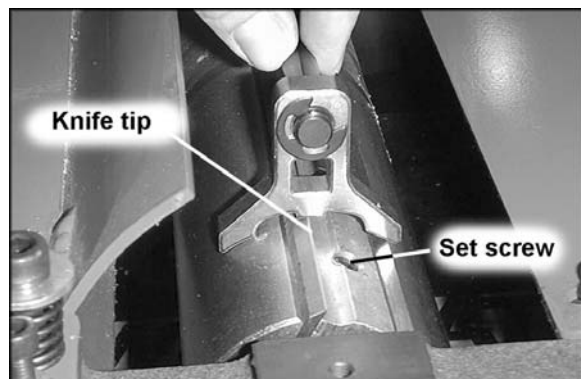

Figure 7
5. Place the knife-setting gauge on the cutterhead, centered over the knife. See Figure 7. Check the height of the knife at several locations along the length of the knife. At all points, it should just contact the center of the gauge.